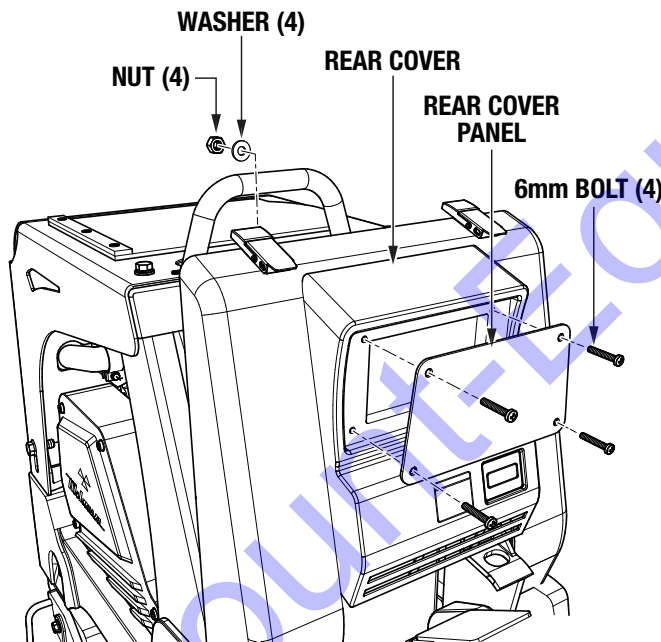

Figure 10. Rear Cover Panel Removal
2. Remove the four 6 mm bolts, nuts, and washers securing the rear cover panel to the rear cover, and set them aside (Figure 10). Discard the rear cover panel.